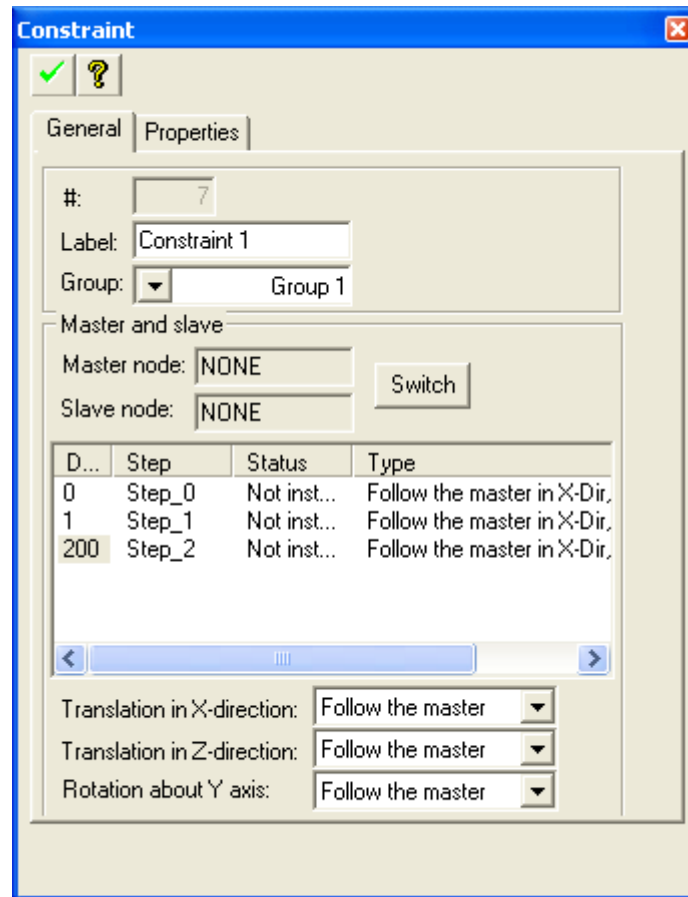

FIGURE 2.14-9 RESTRAINT PROPERTY BOX
**Create Restraint.** This tool is used to specify restraint between two nodes of the structure. To create restraint click on the Create A Restraint tool and follow the instructions at the bottom of the screen. To edit restraint properties open its property box as shown in **Figure 2.14-9**.